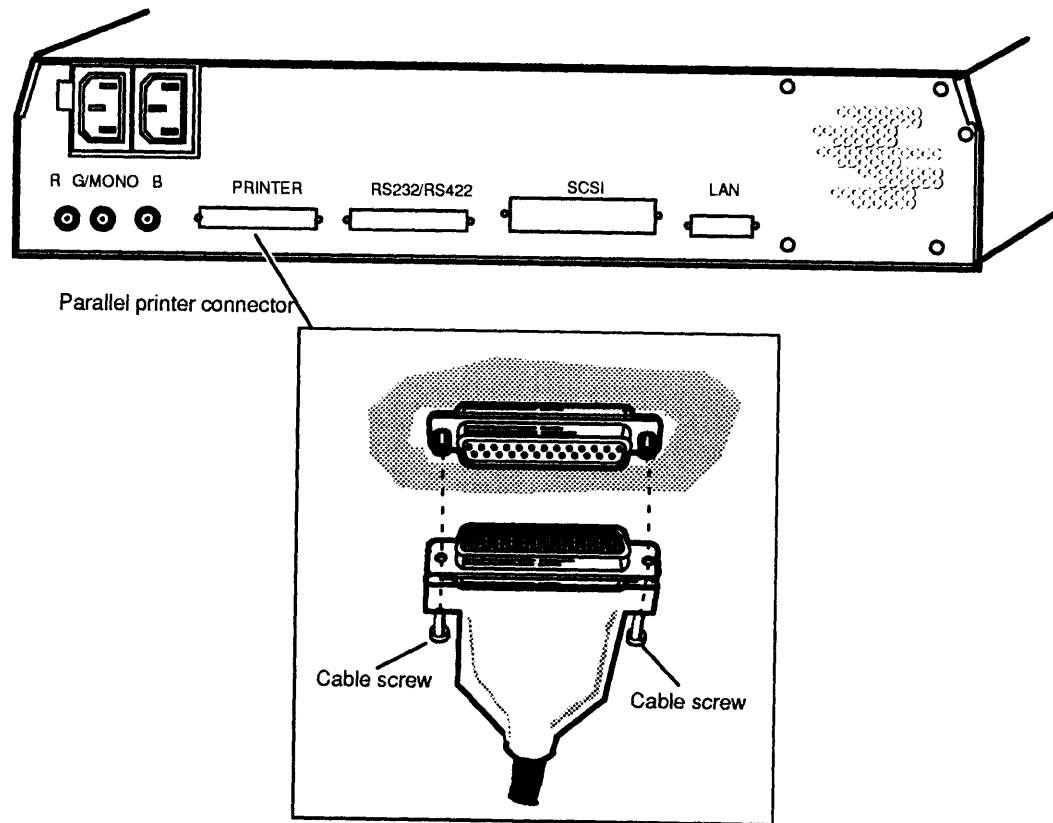

Figure 2-12 Parallel Printer Connector on the Back of the Computer Unit
This section describes how to connect a parallel printer with a Centronics interface. Skip this section if you do not have a workstation in the AViiON 300 series with connectors labeled as shown in Figure 2-12. Reverse the order of these steps to remove or replace your parallel printer cable.
1. Plug the male end of the printer cable into the parallel printer connector on the back of the computer unit as shown in Figure 2-12.